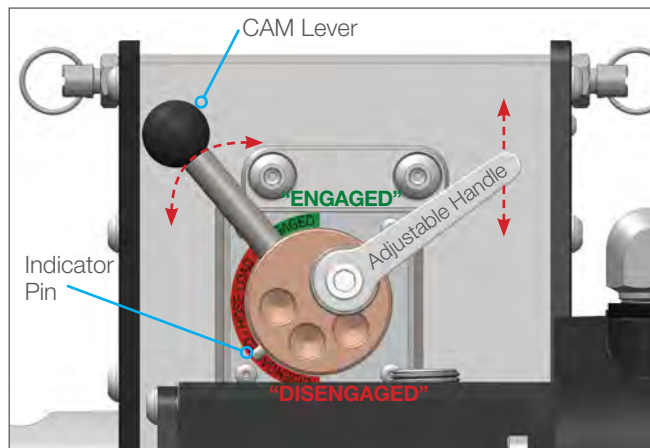

FIGURE 52
1. To load the hose, push up to release the Adjustable Handle and rotate the Cam Lever counterclockwise until the Indicator Pin is in the **"Disengaged"** position. This opens up the space between the rollers in the ABX-PRO Tractor. **(Figure 52)**
2. Rotate the Cam Lever clockwise to the **"Engaged"** position to tighten the Idler Roller down onto the hose. There should be a slow slip on the hose. If the slip is too tight or loose, move the CAM Lever off until a slow slip is obtained. Once the slip level is achieved, push down on the Adjustable Handle to secure in place. **(Figure 52)**